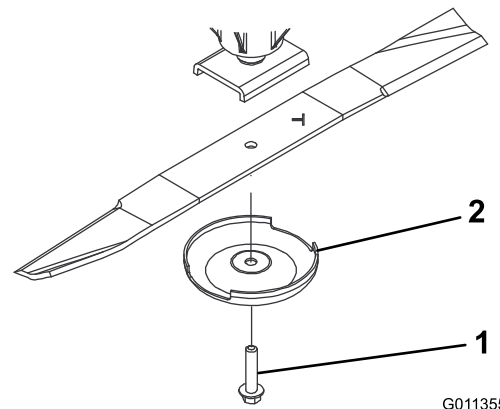

Figure 72
3. Grasp the end of the blade using a rag or thickly padded glove and remove the blade bolt, anti-scalp cup, and blade from the spindle shaft (Figure 72).
4. Use the anti-scalp cup and blade bolt to install the blade with the sail facing toward the cutting deck (Figure 72).